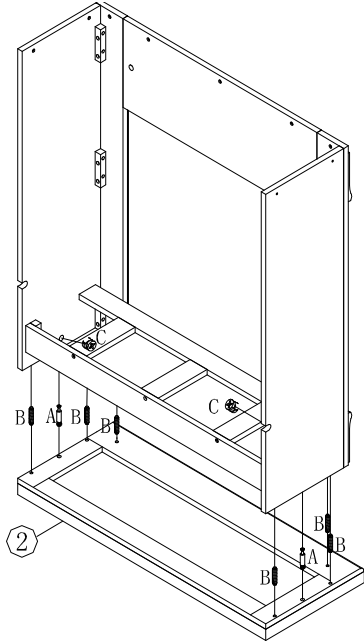

Figure 4
INSERT 2PCS CAM-BOLTS (A) AND 6PCS WOOD DOWELS (B) INTO PREDRILLED HOLES ON UPSIDE OF BASE (2) AND FIT INTO CORRESPONDING HOLES ON BOTTOM EDGES OF THE ASSEMBLED UNIT. INSERT 2PCS CAM-LOCKS (C) INTO BIG HOLES ON INSIDE OF LEFT AND RIGHT SIDE PANELS (6&7) WITH SLOT FOR SCREWDRIVER FACING OUTWARD. ROTATE CAM-LOCKS (C) CLOCKWISE TO SECURE CAM-BOLTS (A). AS FIGURE 4 SHOWN.